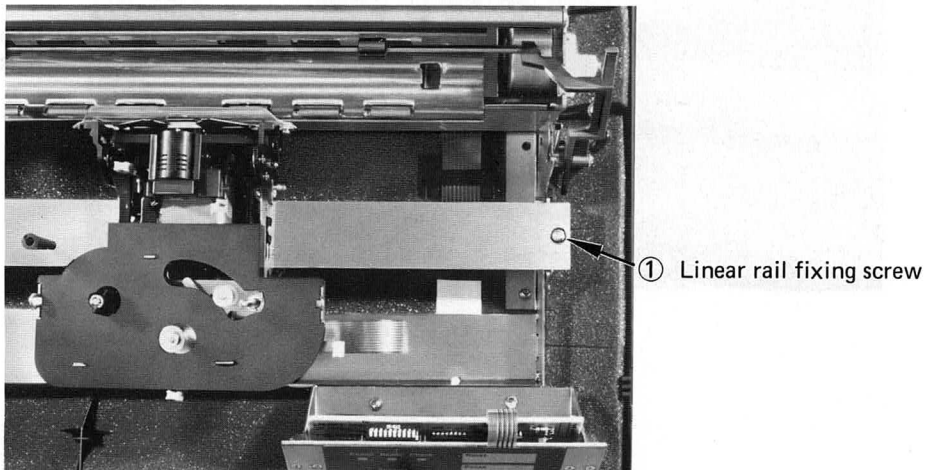

Fig. 5.7
Step 1. Remove two screws ① fixing the linear rail. (Fig. 5.7)